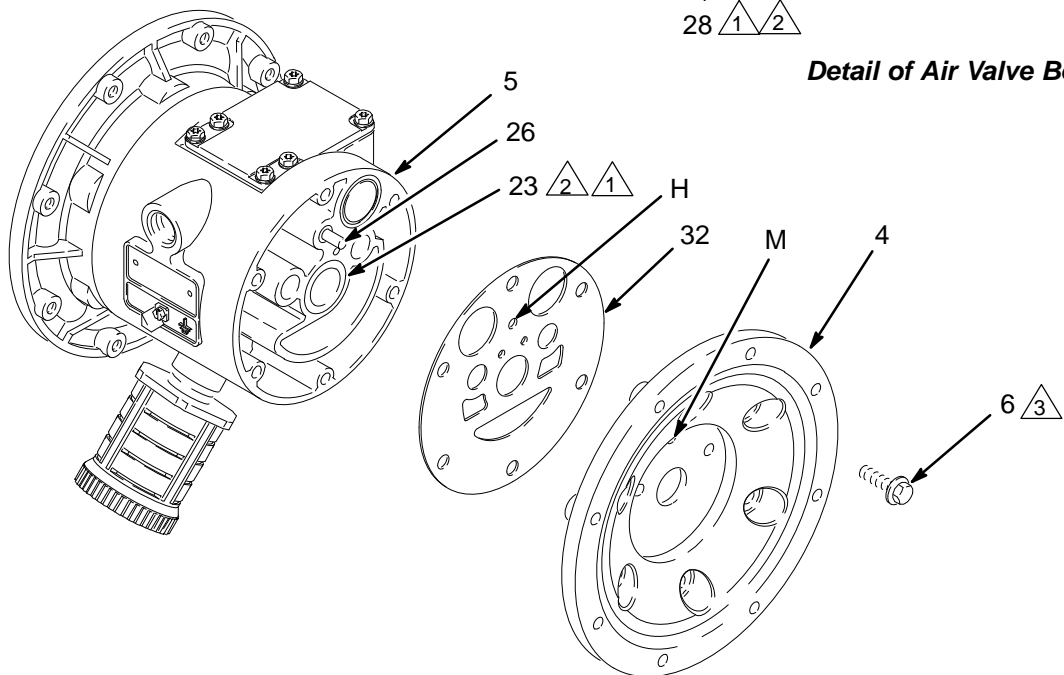

Fig. 15
- NOTE:** If you are removing only the diaphragm shaft bearing (23), skip step 4.
5. Using a 10 mm socket wrench, remove the screws (6) holding the air covers (4) to the center housing (5). See Fig. 15.
6. Remove the air cover gaskets (32). Always replace the gaskets with new ones.
7. Use a bearing puller to remove the diaphragm shaft bearings (23), air valve bearings (31) or pilot pin bearings (28). Do not remove undamaged bearings.
1. If removed, install the shaft u-cup packings (22*) so the lips face **out** of the housing (5).
2. The bearings (23, 28, and 31) are tapered and can only be installed one way. Insert the bearings into the center housing (5), **tapered end first**. Using a press or a block and rubber mallet, press-fit the bearing so it is flush with the surface of the center housing.
4. Align the new air cover gasket (32) so the pilot pin (26) protruding from the center housing (5) fits through the proper hole (H) in the gasket.
5. Align the air cover (4) so the pilot pin (26) fits in the middle hole (M) of the three small holes near the center of the cover. Apply medium-strength (blue) Loctite or equivalent to the threads of the screws, and install the screws (6), hand tight. See Fig. 15. Using a 10 mm socket wrench, torque the screws oppositely and evenly to 120 to 150 in-lb (14 to 17 N•m). See **Torque Sequence**, page 29.